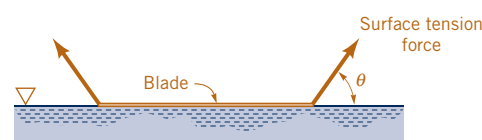

Figure P1.118
1.118 As shown in **Video V1.9**, surface tension forces can be strong enough to allow a double-edge steel razor blade to “float” on water, but a single-edge blade will sink. Assume that the surface tension forces act at an angle θ relative to the water surface as shown in Fig. P1.118. (a) The mass of the double-edge blade is $0.64 \times 10^{-3} \text{ kg}$, and the total length of its sides is 206 mm. Determine the value of θ required to maintain equilibrium between the blade weight and the resultant surface tension force. (b) The mass of the single-edge blade is $2.61 \times 10^{-3} \text{ kg}$, and the total length of its sides is 154 mm. Explain why this blade sinks. Support your answer with the necessary calculations.